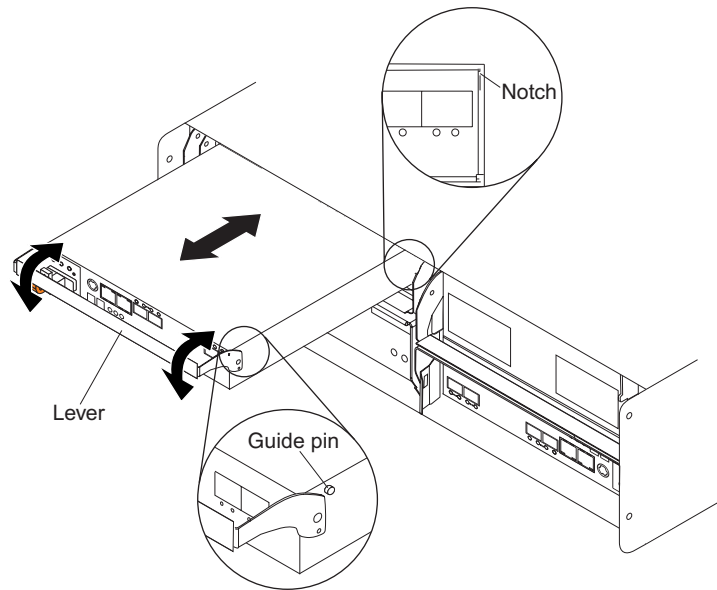

Figure 76. Installing a controller
- a. Slide one controller into the empty slot in the storage subsystem. Be sure that the lever is pulled straight out as you slide the controller in, as shown in Figure 76 on page 126.